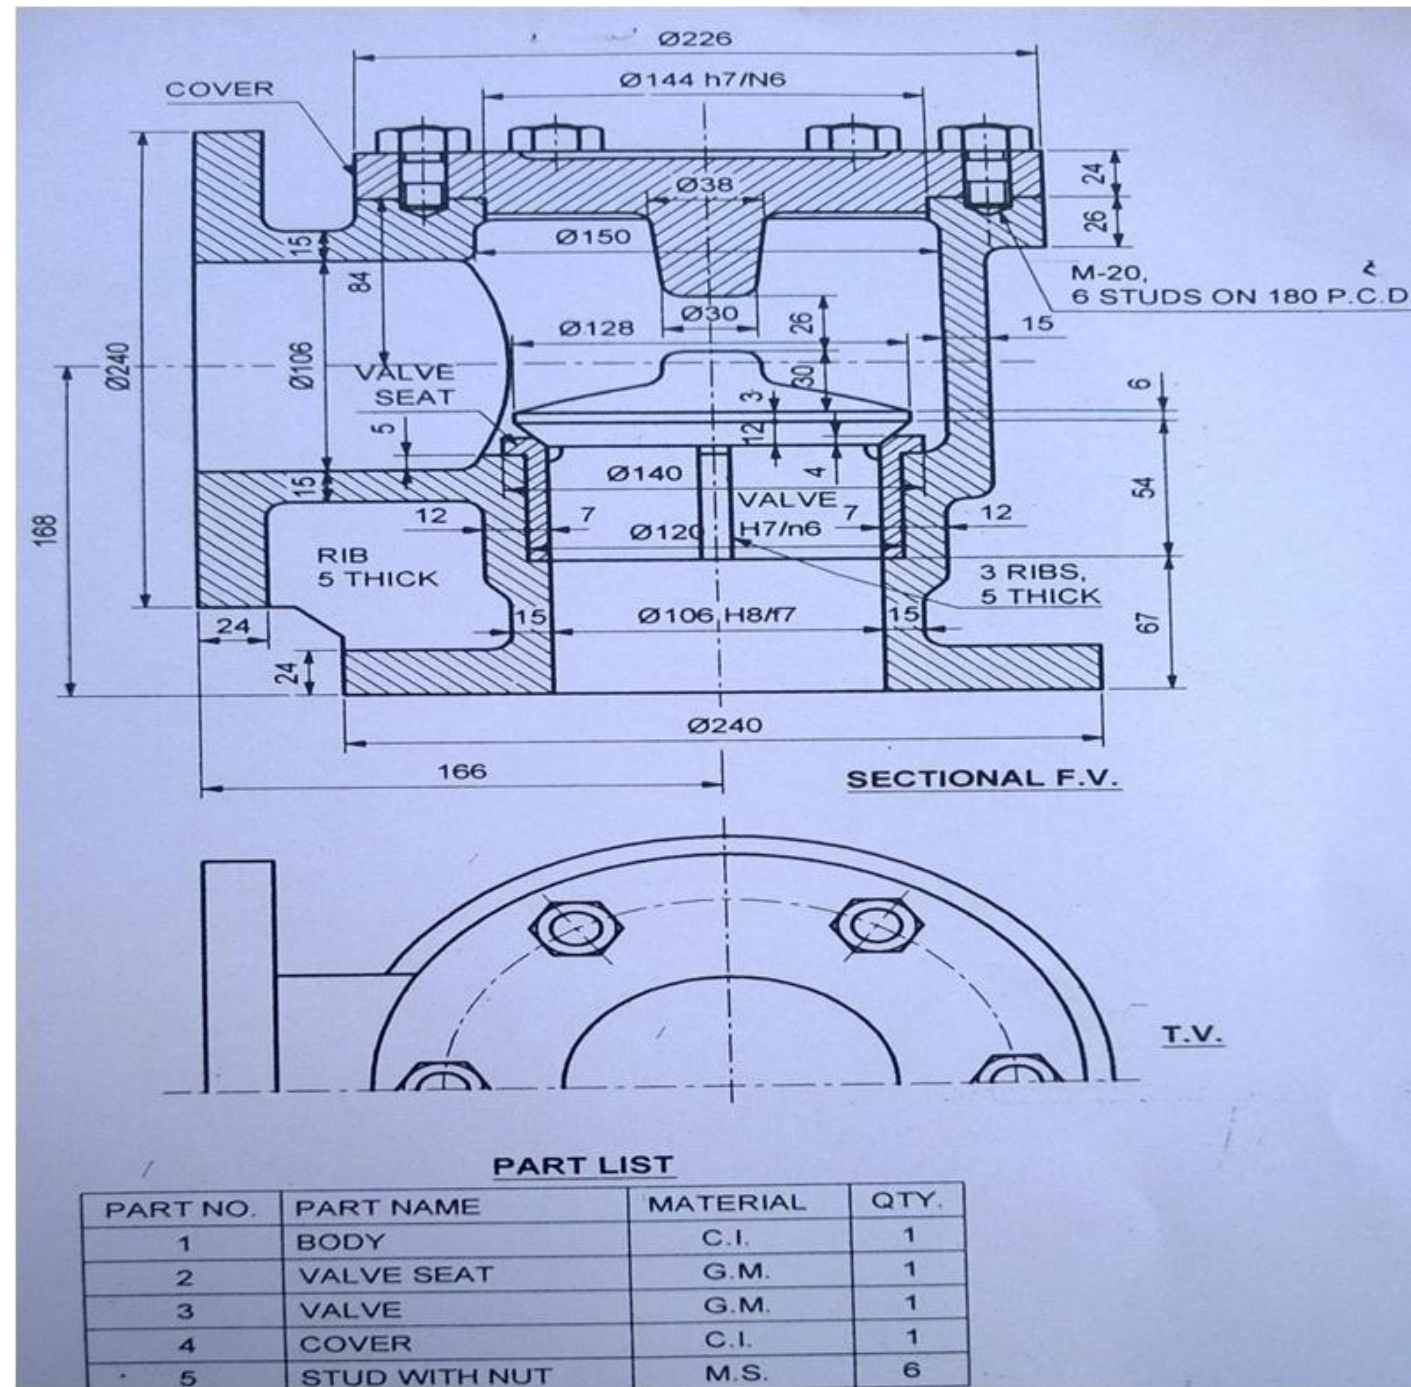

Figure 12.
4. Figure 12. Shows the assembly of the non-return valve. Draw the following details: